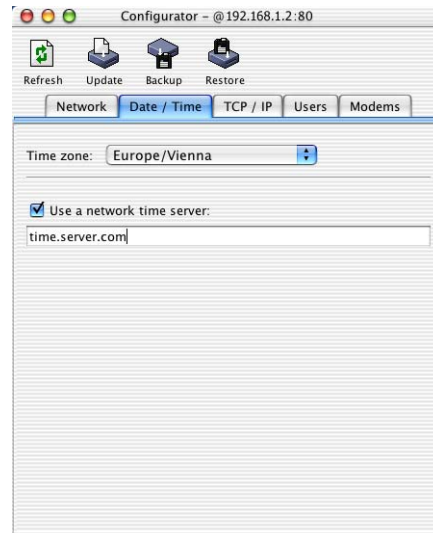

Figure 7. Configure a Time Server
- If you have an NTP time server on your network or over the Internet (that is, your gateway is permanently connected to the Internet), you can select the **Use a network time server** checkbox to activate the time server. In this case the calendar and the time edit boxes are replaced by an edit box where you type the Internet name of the time server (see Figure 7).